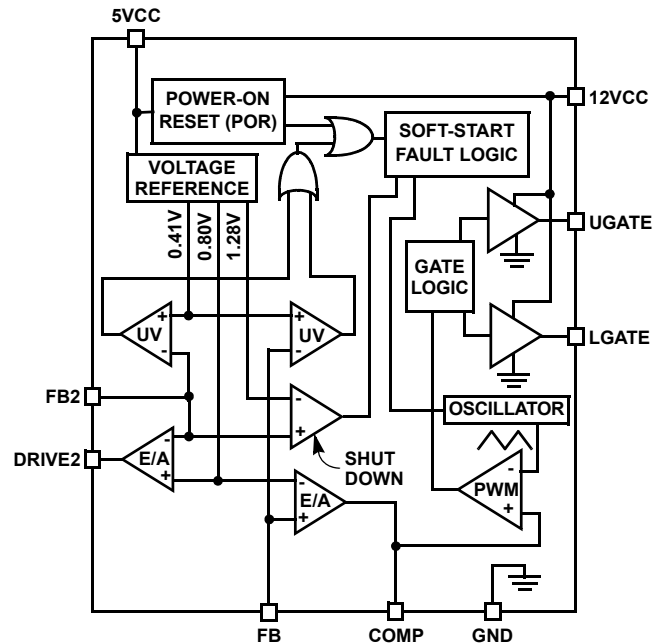

FIGURE 2. ISL6529 BASIC BLOCK DIAGRAM
A simple block diagram of the ISL6529 is shown in Figure 2. Integrated high-bandwidth error amplifiers and an accurate internal voltage reference insures static voltage regulation of $\pm 2\%$ for the ISL6529C and $\pm 1\%$ for the ISL6529AC over line, load and temperature ranges. Simple undervoltage (UV) comparators monitor the FB lines of each regulator and shut down both outputs when a fault is detected on either FB input. For a more detailed description of the ISL6529 functionality, refer to the ISL6529 Data Sheet [1].